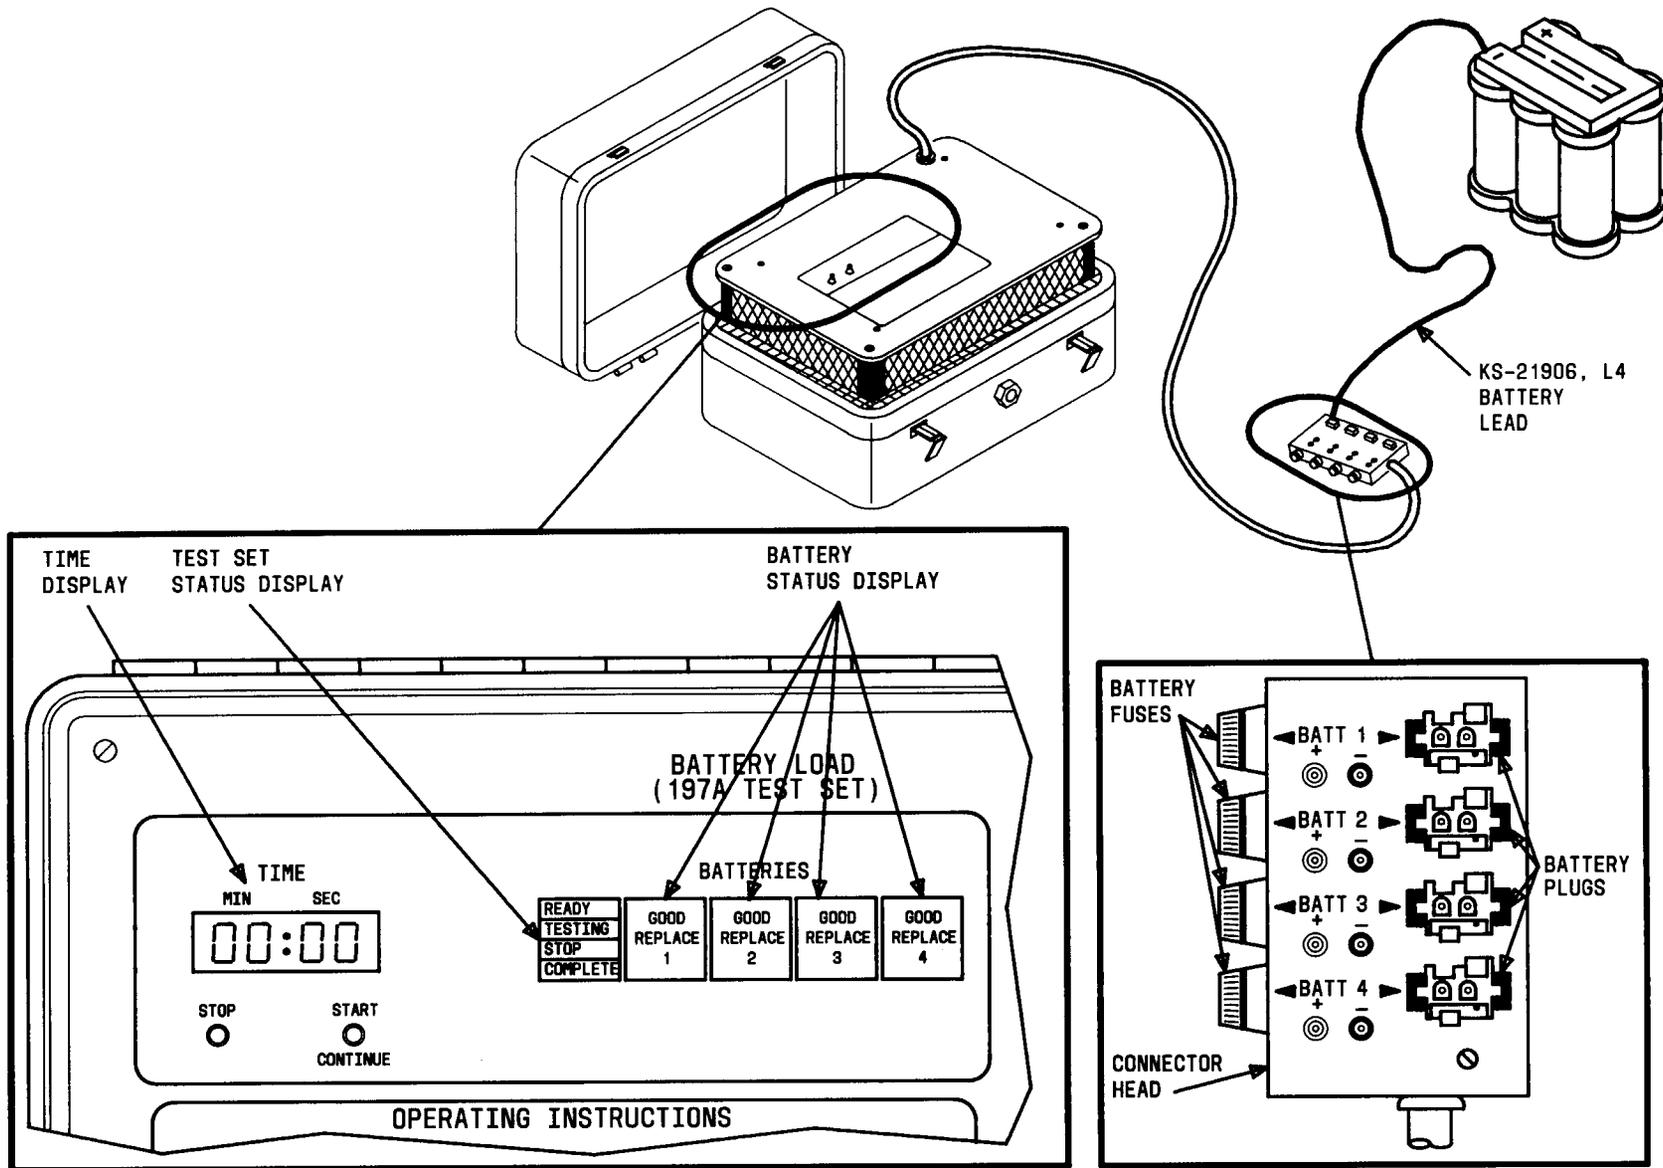

Fig. 1—197A Battery Load Test Set Arrangement
1. Obtain 197A BATTERY LOAD TEST SET (Figure 1).